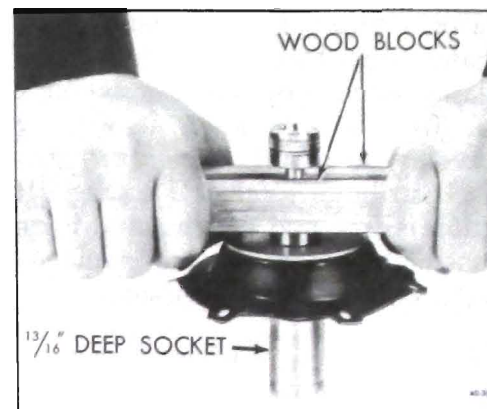

Figure 40-40 - Installing Diaphragm Retainer
1. Install new corprene washer, old plate (unless damaged), new diaphragm (with outer lip toward second stage end of piston) and second plate. See Figure 40-40.